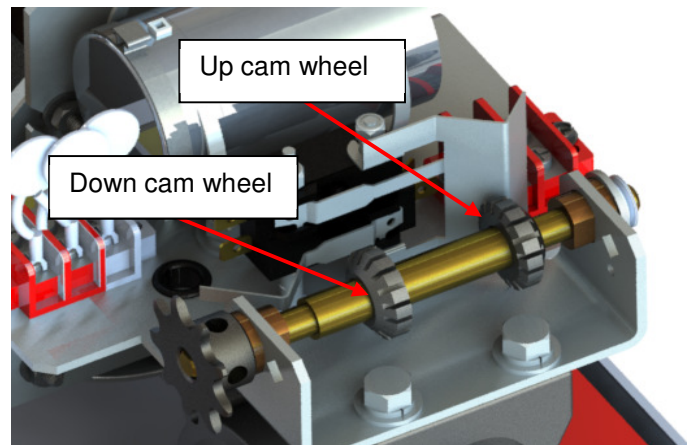

Figure 111
- 2) Remove the four slotted screws at the bottom of the operator cover and remove the cover. (Figure 111)
- 9) Screw the cover back on using the 4 slotted screws. (Figure 111)